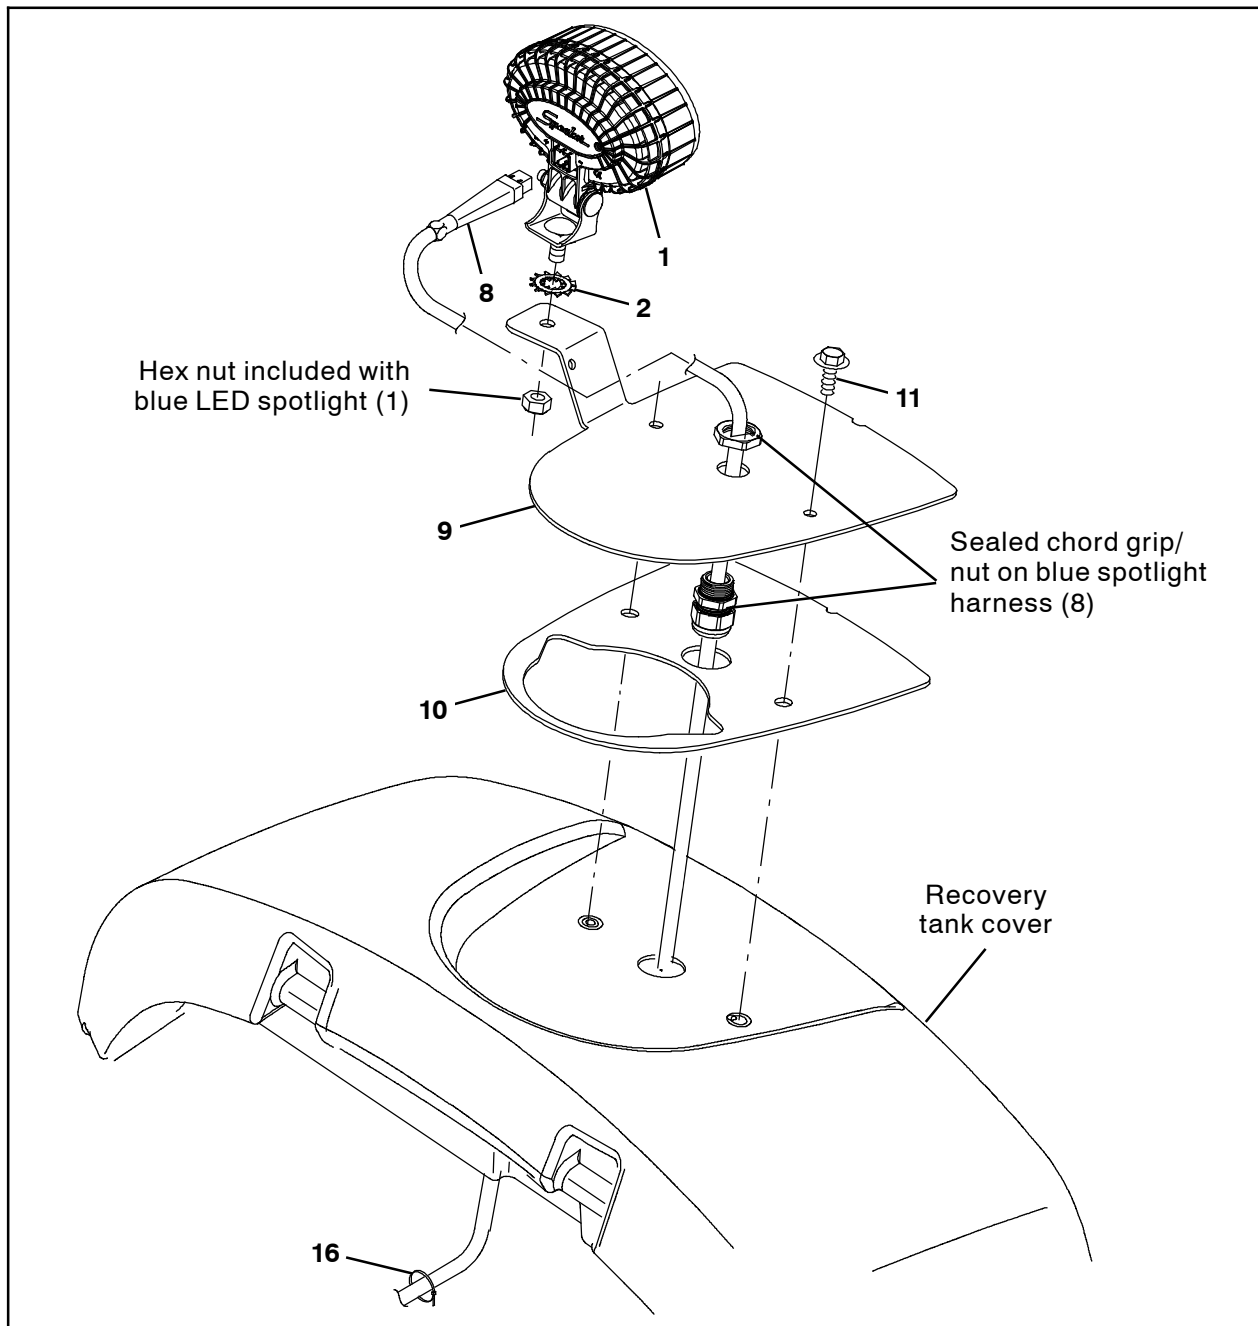

FIG. 36
23. Use two SEMS M8 hex screws (11) to loosely install the blue spotlight rear mounting bracket (9) onto the recovery tank. (Fig. 36)
24. Use the blue spotlight rear mounting bracket (9) to mark location for hole to route the blue spotlight rear harness (8) into the recovery tank. (Fig. 36)
25. Remove the blue spotlight rear mounting bracket (9) from the recovery tank. Set the blue spotlight rear mounting bracket and SEMS M8 hex screws (11) aside. (Fig. 36)
29. Remove the backing from the module base gasket (10) and install the gasket onto the blue spotlight rear cover mounting bracket (9). (Fig. 36)
30. Use two SEMS M8 hex screws (11) to install the blue spotlight rear cover mounting bracket (9) onto the recovery tank cover. (Fig. 36)
31. Remove the hex nut included with the blue LED spotlight (1) from the light. (Fig. 36)
32. Use the hex nut removed from the blue LED spotlight (1) in the previous step and a lock washer (2) to install the blue LED spotlight onto the rear cover mounting bracket (9). (Fig. 36)
34. Route the blue spotlight rear harness (8) blue LED light lead through the 1 in. (25 mm) hole in the recovery tank cover and through the 2 in. (50 mm) in the top of the recovery tank cover/blue spotlight rear cover mounting bracket (9). (Fig. 36)
35. Connect the blue spotlight rear harness (8) to the blue LED spotlight (1). (Fig. 36)